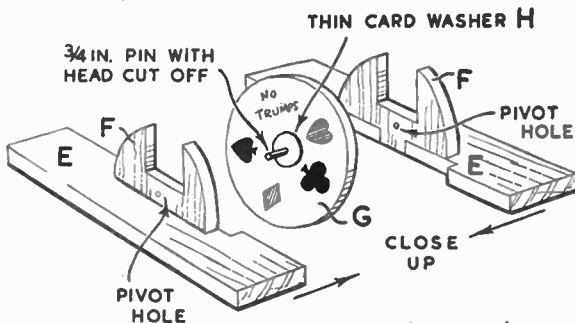
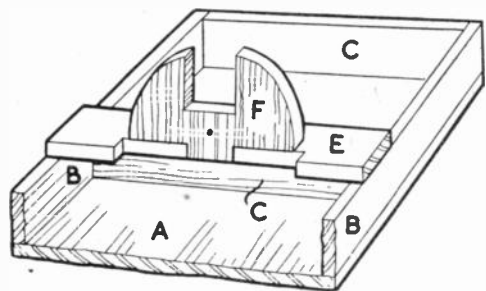

Fig. 1—The indicator assembly ready to glue on to the top of the box
Fig. 2—A view of the general construction
can be gained. The board itself is made from plywood, and is not a separate article but a fixture to the frame support. As will be seen the supports consist of a frame, to which the board is nailed, and a pair of rear struts. The frame, minus board, is shown separately in Fig. 2. It is made up of $\frac{1}{2}$ in. or $\frac{3}{4}$ in. by $1\frac{1}{2}$ in. wood; deal will serve quite well. The top rail is notched across as at (B); the lower one just tenoned or grooved in, in the usual manner. At 6 ins. down from the top, bore holes through for the screws pivoting the struts.
Lay the frame face down on the bench, with its struts closed down to the sides. At the distance up from the bottom, nail a 2 in. wide strip of wood (A) in Fig. 1 across the struts. From here, a diagonal strip 1 in. wide, is also nailed, this reaching to 3 ins. from the bottom opposite corner. This can be seen in the view of the completed article.
A side view is given in Fig. 1, from which the construction and dimensions
When all these parts are dry and ready for assembly, they should be put together as shown in Fig. 1, and the whole of the trump indicator portion is then glued and pinned into position on the card case. The dotted lines on the design sheet and Fig. 2 will make the